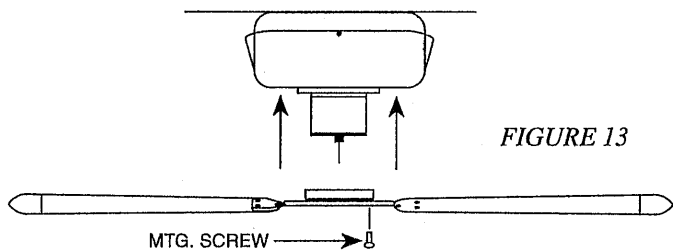

FIGURE 13
**B.** Install the blade iron ring to the motor, using the 4-#1/4-20 screws with fillister heads (tall heads). Slide the ring with the blades attached over the switch housing, rotating the ring until it clears the switch housing. Mount the ring to the motor hub with the four screws identified above. See Figure 13.